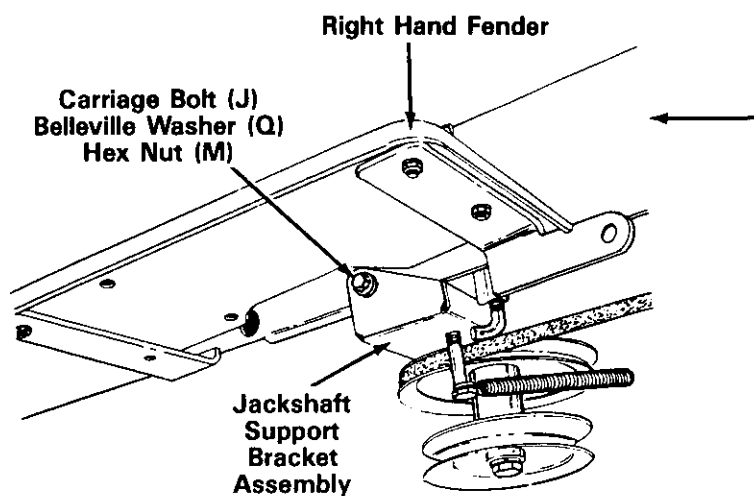

FIGURE 8
- C. Secure the jackshaft support bracket assembly on the right hand side of tractor, using carriage bolt (J), belleville washer (Q) and hex nut (M). See figure 8.